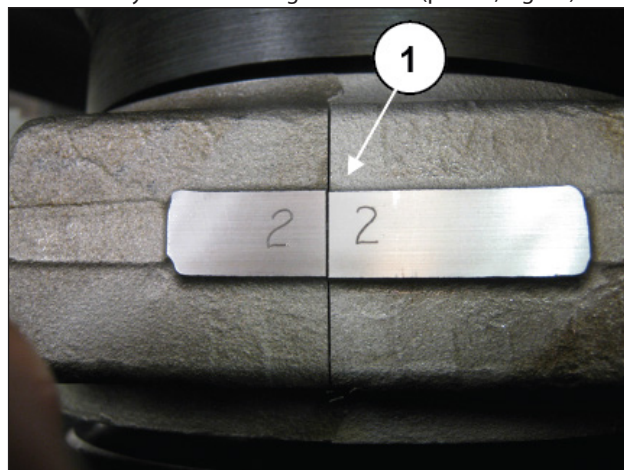

Fig. 77
Separate the caps from the half-conrods. Proper coupling can be verified by the numbering on the side (pos. ①, Fig. 77).